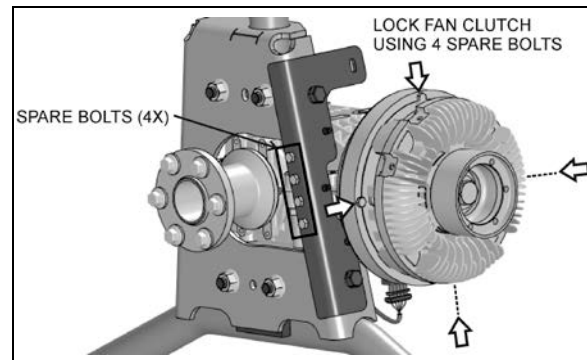

FIGURE 25: MECHANICAL LOCKING
3. Unscrew and remove the 4 spare M6x12 hex bolts screwed to the angle on the fan gearbox mounting support (FIGURE 25).